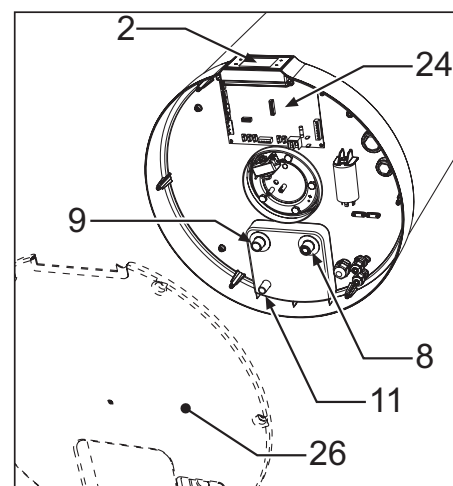
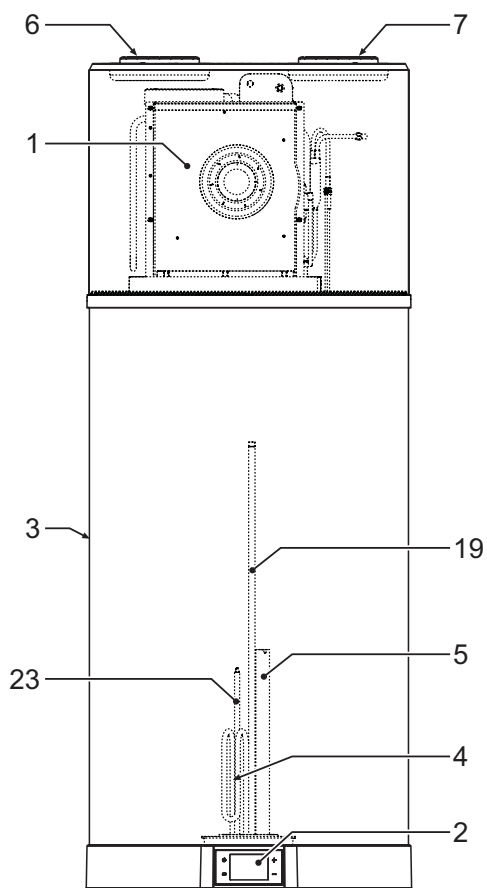
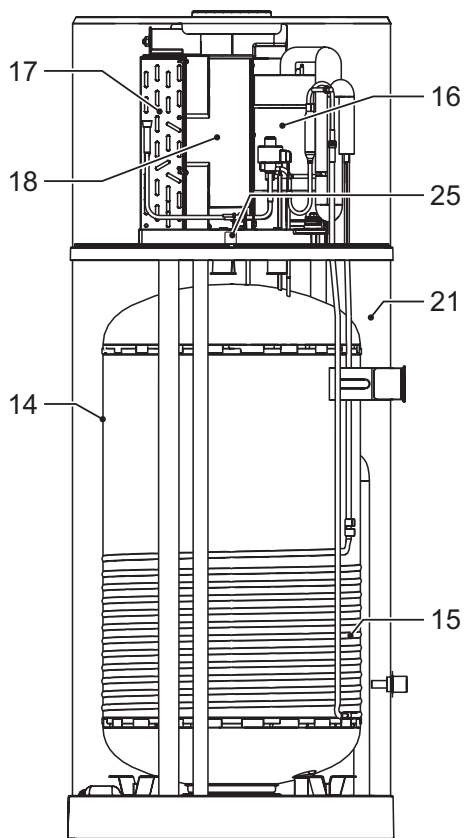

fig. 20
fig. 21
fig. 22
| REF. | DESCRIPTION (fig. 20 - fig. 21 - fig. 22) |
| F (ref. 8 - fig. 20) | 1/2" G | 163 | 163 | mm |
| G (ref. 9 - fig. 20) | 1/2" G | 163 | 163 | mm |
| H (ref. 11 - fig. 20) | 16 mm* | 68 | 68 | mm |